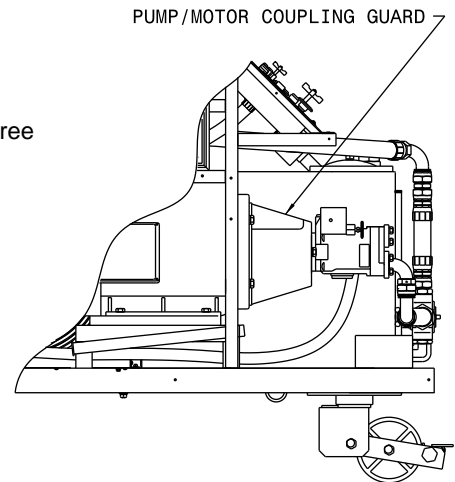

FIGURE 5.4.1
- a. Remove the pump/motor coupling guard. Reference **Figure 5.4.1 – Pump/Motor Coupling Access.**